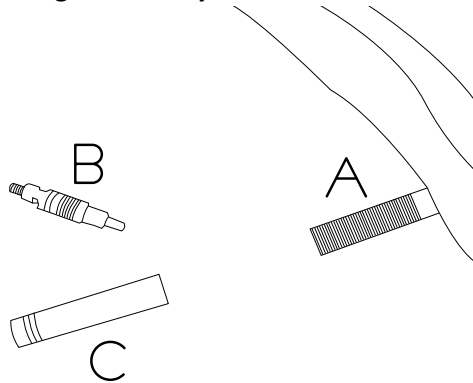

Figure 4.19
- Unscrew the valve extender (Fig 4.19, C) from the tyre (see over page).
Valve Extenders can be transferred from one tyre to another. The nature of our valve extenders is such that they can be fitted with the valve 'core' from the tyre, which can also be transferred to the new tyre if un-damaged. The valve core (Fig 4.19 B) comes with the tyre and can be screwed into either the tyre (Fig 4.19 A) or the valve extender (Fig 4.19 C). Spare cores should be kept safe as they can be fragile and very useful.